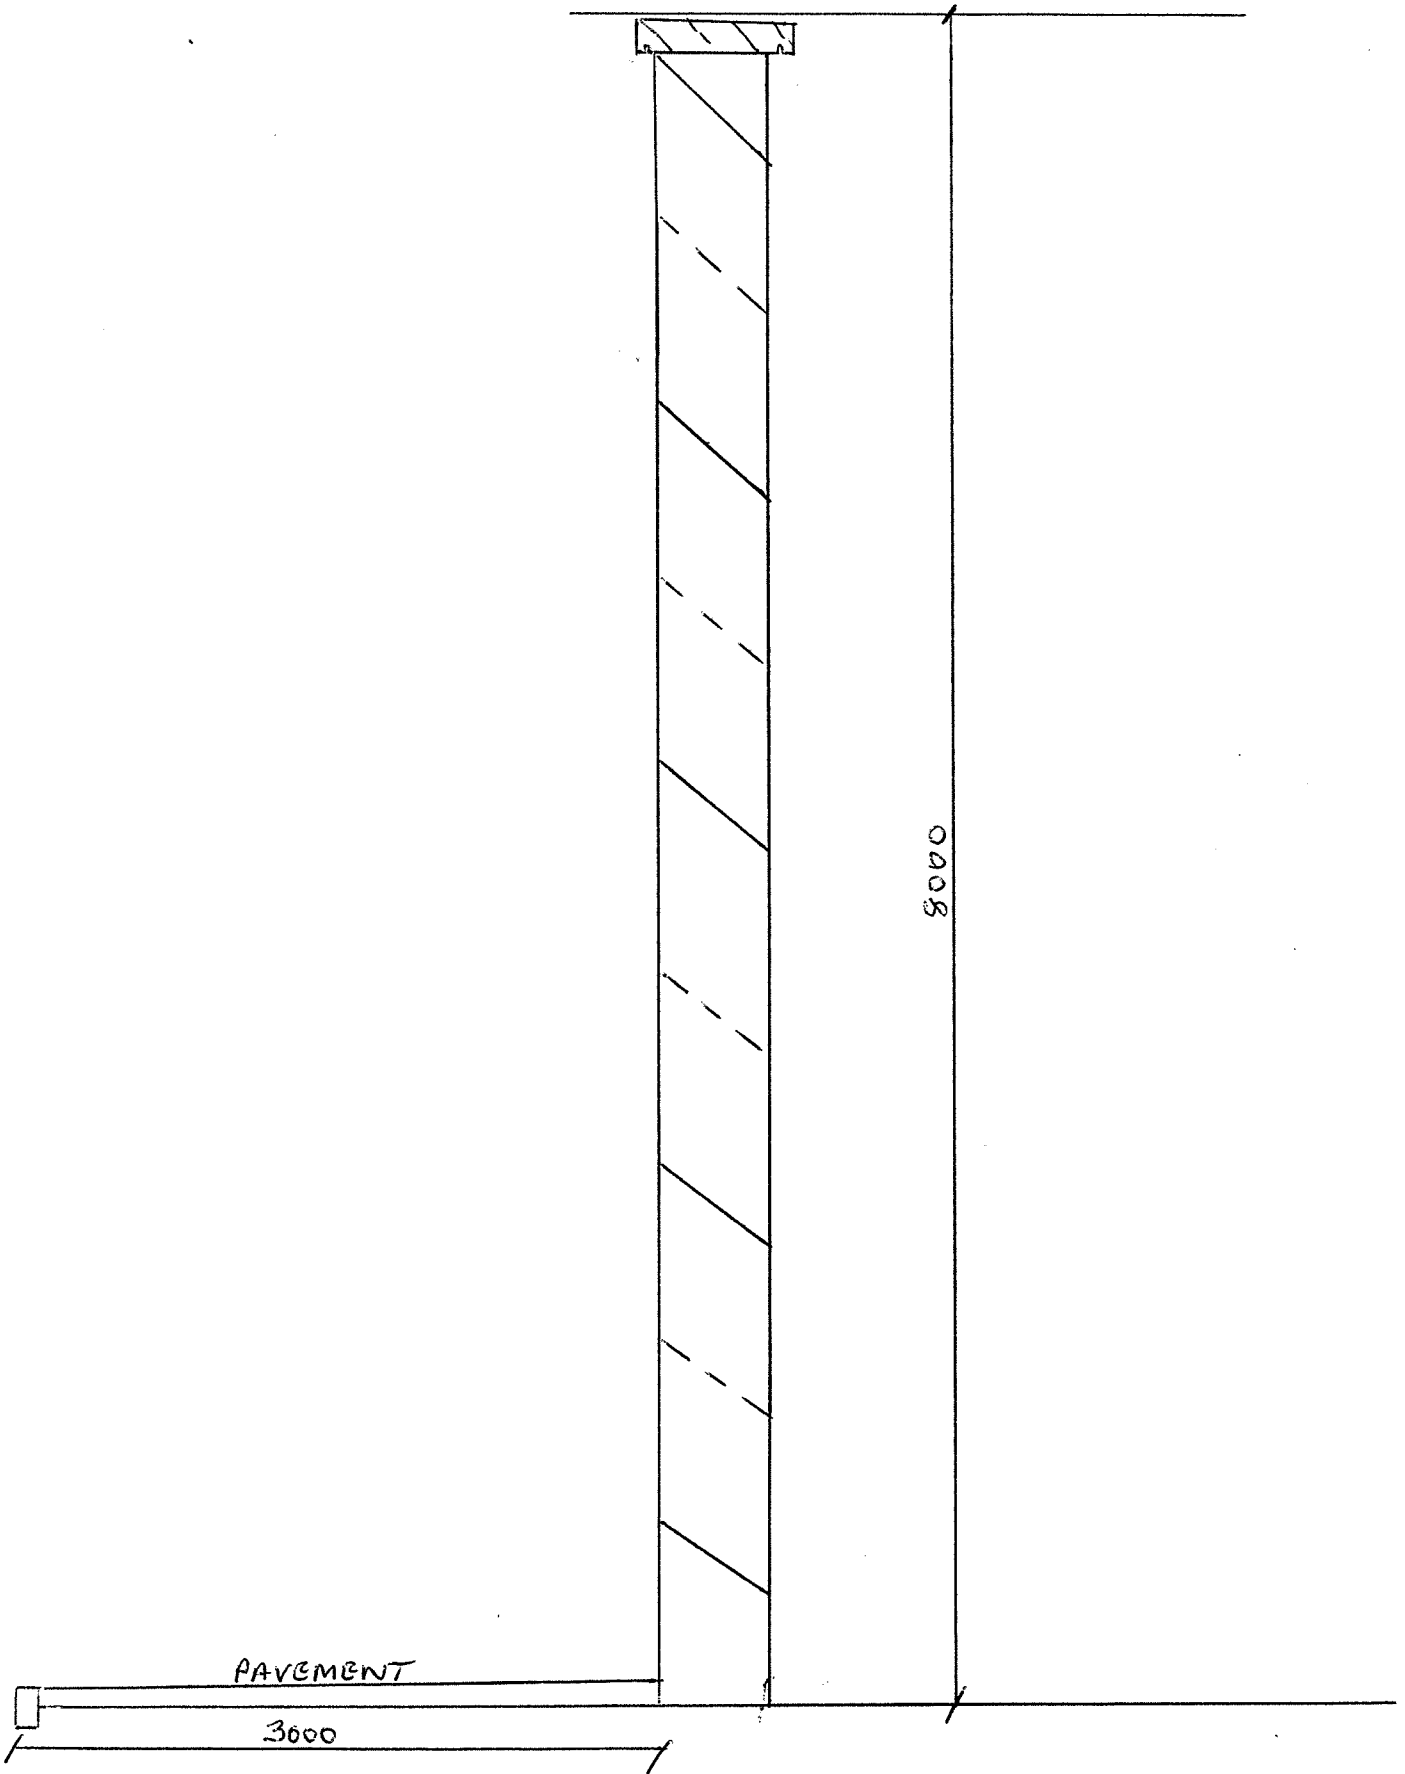

FIGURE 1
- (b) Using figure 1 attached explain with the aid of annotated sketch how the existing façade can be given temporary support during the construction of the six storey apartment block. (5 marks)